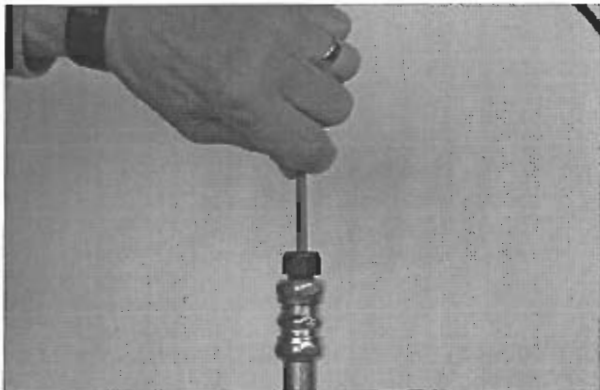

FIGURE 89
10. Push flexible conduit completely through conduit offset. Flexible conduit should stop flush or $\pm 1/2$ in. (1.3 cm) from bottom conduit fitting in ANSUL AUTOMAN Release. See Figure 89.